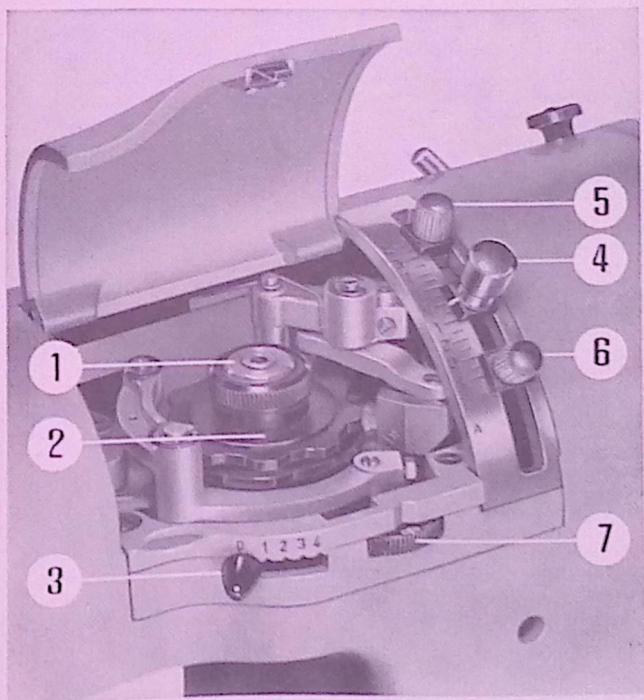
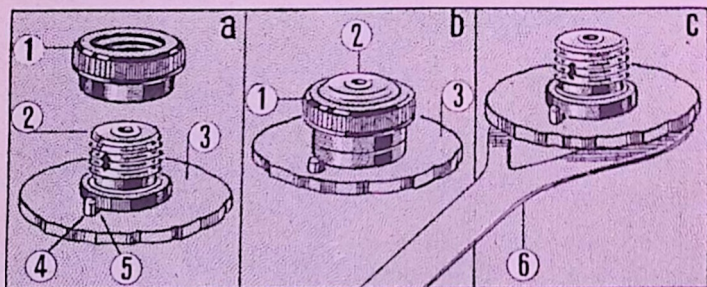

Fig. 21
Fig. 23
For inserting or changing the "discs", place first the stitch width regulating lever (3) and the stitch length regulating lever (4) on "0" (see Fig. 21); then remove the "disc" thumb nut (1), as shown in Fig. 23 a. Next place the simple or double "disc" which you selected for the work to be done (number and design are indicated on top of the "disc") on the Elnagraph axle (2) so that the pin (4) will enter the oblong hole (5) in the "disc". Replace the "disc" thumb nut (1) on the Elnagraph axle (2) and tighten it firmly by hand (Fig. 23 b).
The position of the needle bar can be changed by turning the centering wheel (No. 7 of Fig. 21). The center position is shown below under "b". To move the needle bar to the left, turn the centering wheel toward the left (a); to move it to the right, turn the wheel to the right (c). The drawings below are for an ordinary straight stitch seam; the centering, however, can also be used for any other stitch. It is also possible to set the needle bar at any desired intermediate position.